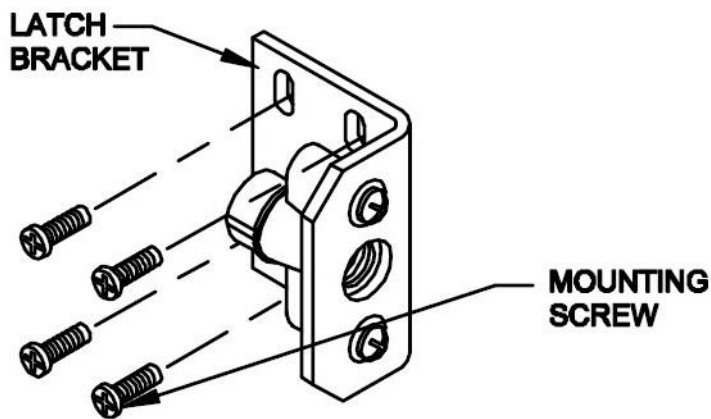

FIGURE 3
J. Door Latch Alignment (Figure 3)